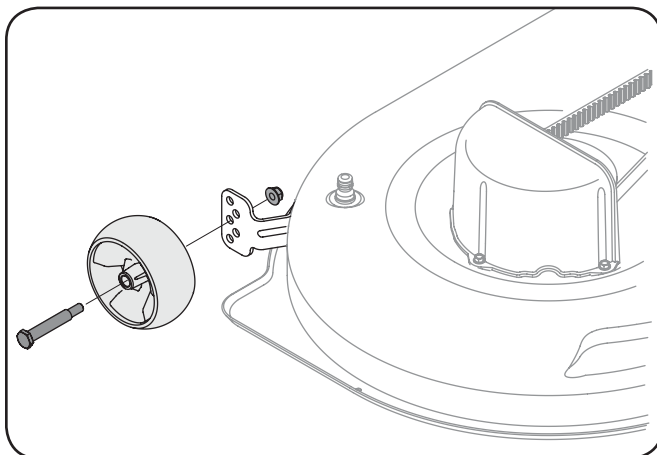

Figure 3-6
- b. Remove the front and rear gauge wheels by removing the lock nuts and shoulder screws which secure them to the deck. See Figure 3-6.